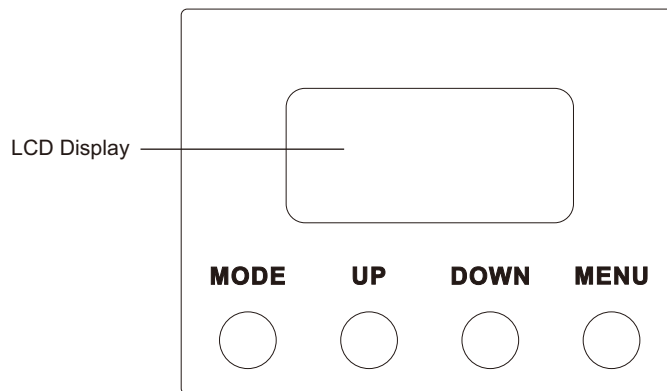

Figure 1-4: Menu System
- Step 2. Press the desired button (as shown in **Figure 1-4**) to access menu categories.